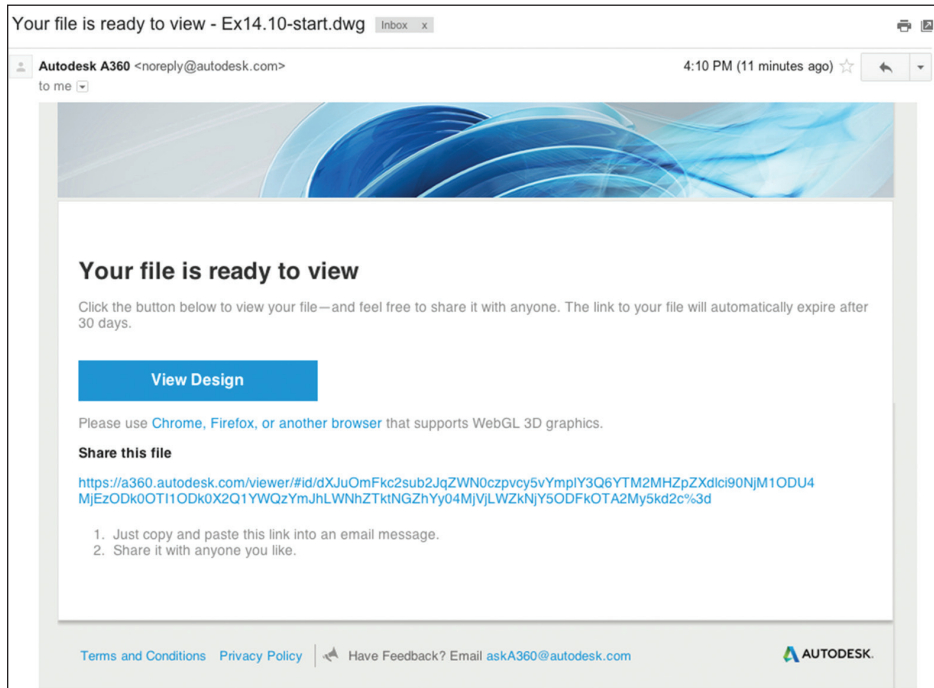

FIGURE 14.30 Autodesk 360 email with embedded View Design button
4. Check your email. The email account you used to register with A360 will receive a message from Autodesk A360 when your uploaded drawing is ready to share. You can click the View Design button in the email (see Figure 14.30) to open it in your browser or simply copy and paste the link to share with anyone who has a browser supporting WebGL (a standard widely supported in modern browsers; see <https://en.wikipedia.org/wiki/WebGL>).